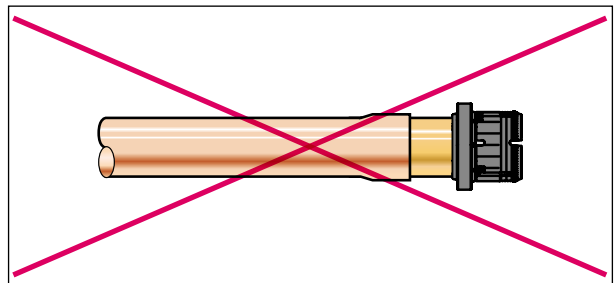

Fig. 6-3
- REHAU does not approve using EDGE™ copper adapter as a direct transition piece to EDGE™ PE-Xa pipe from any other pipe material (Fig 6-3).